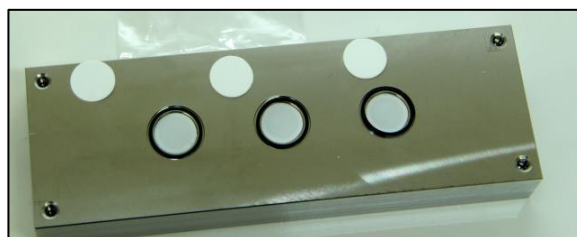

Fig. 3f: Place gaskets
4. Place the gaskets in the recesses (fig. 3f)